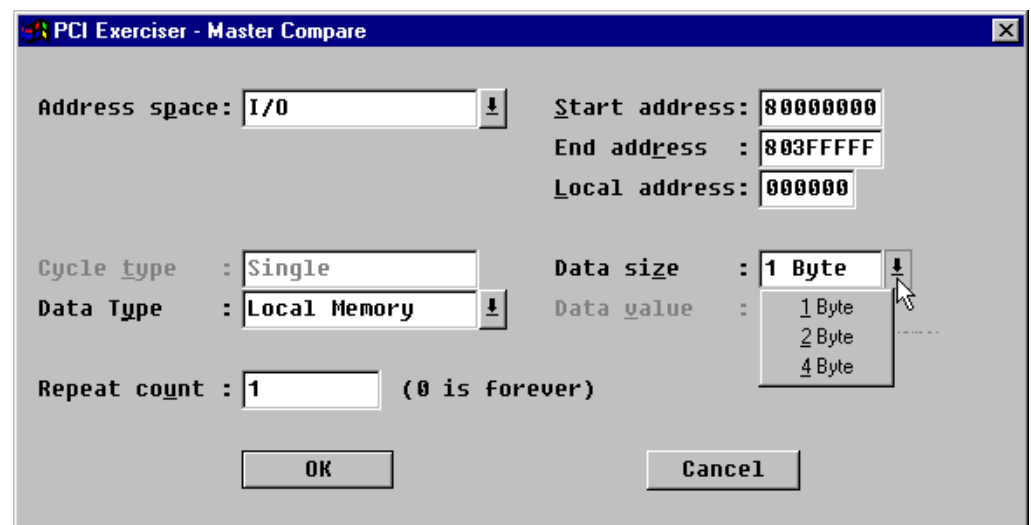

Figure 6.28 Master Compare command
**Master menu:** Select `Compare` from the Master menu, and the dialog box in Figure 6.28 appears.